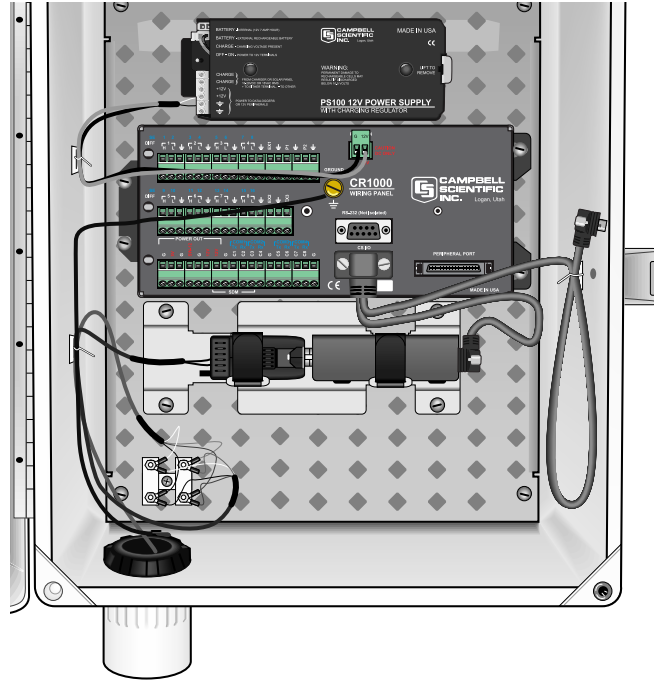

FIGURE 3-9. SRM-5A Rad Modem and SC932A Interface
2. Attach the SRM-5A and SC932A mounting bracket to the enclosure backplate using the two screws and nylon inserts provided (FIGURE 3-9).